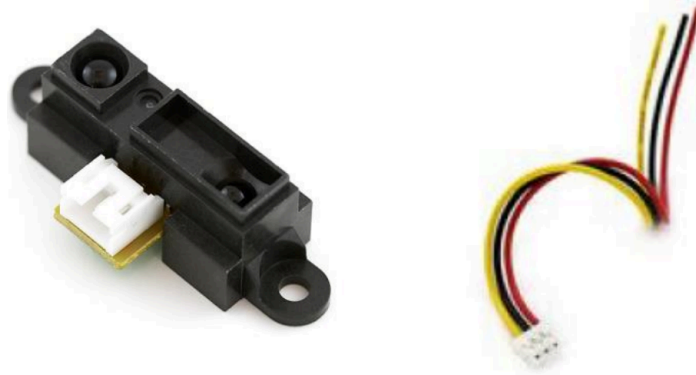

Figure 6: Infrared Proximity Sensor and 3-wire pigtail connector
The Sharp GP2D120XJ00F infrared proximity sensor (see Figure 6) is an analog sensor – it gives a variable output of voltage (from 3.1V to 0.3V depending on if the object is close or far away) instead of a simple high vs. low output. It detects the distance to a nearby object by shining a beam of infrared (IR) light from an LED, and measuring the intensity of reflected light using a phototransistor. In industry, these are often called “prox switches”. You can find the datasheet with detailed information on the sensor at this link: